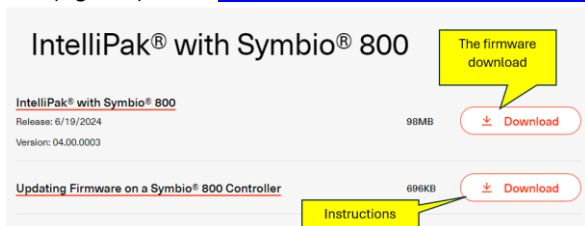

Figure 1:
- **Download latest Firmware version to your laptop and instructions:** IntelliPak® with Symbio® 800 , Release: 6/19/2024 Version: 04.00.0003 (Figure 1). Link: Trane Controls Software & Firmware Downloads